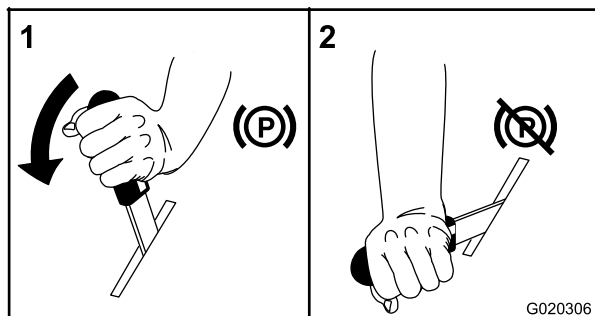

Figure 10
3. Set the parking brake (Figure 10); refer to Setting the Parking Brake.